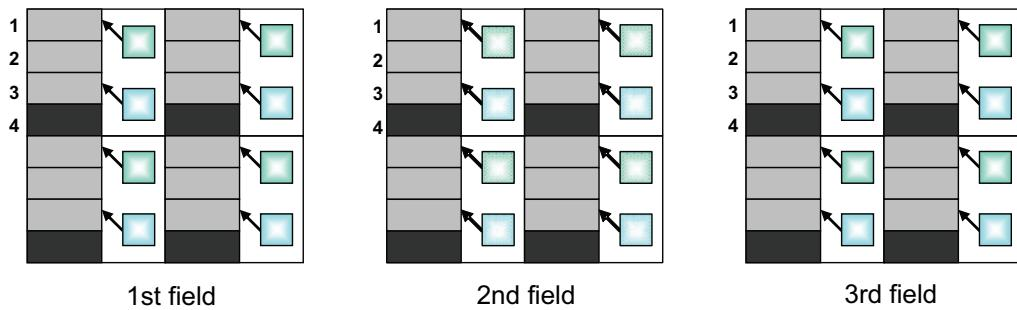

Figure 46: Format_7 Mode_2: 4-phase vertical shift register precharging (non-interlaced, field)
- Figure 46: Format_7 Mode_2: 4-phase vertical shift register pre-charging \(non-interlaced, field\) on page 98